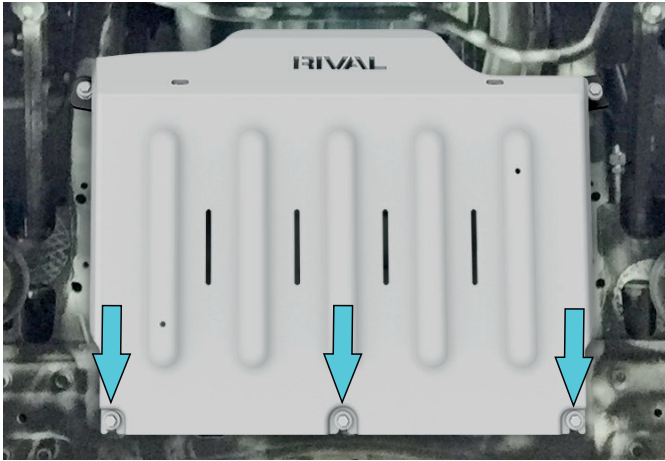

Fig. 5
5. Slide the rear part of skid plate (item 1) on previously installed bolts from step 4 as shown in fig. 5.